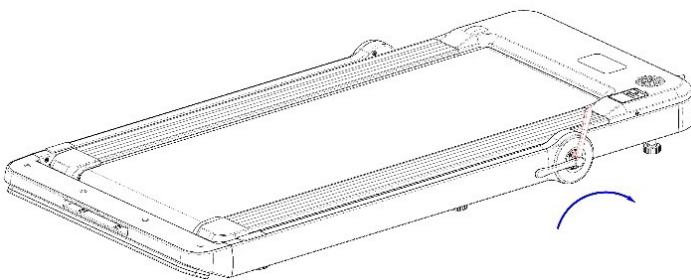

Figure 1
1. Take the treadmill out of the carton and put it flat on a level ground. Then unscrew the locking handle as shown in the figure below (Figure 1). Lift the column up to the upper limit point and tighten the locking handle. (Figure 2: At least 2 persons are required to install.)